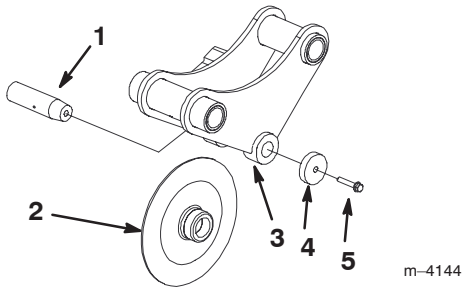

Figure 13
1. Back out the coultter pin screw about 0.5 in. (1.3 cm), then strike it several times with a hammer to loosen the pin (Fig. 13).
2. Completely remove the coultter pin screw, washer, coultter, and coultter pin (Fig. 13).
3. Put the new coultter into the coultter bracket (Fig. 13).
- Slide the coulter pin through the bracket and coulter and secure it with the coulter pin screw and washer (Fig. 13).